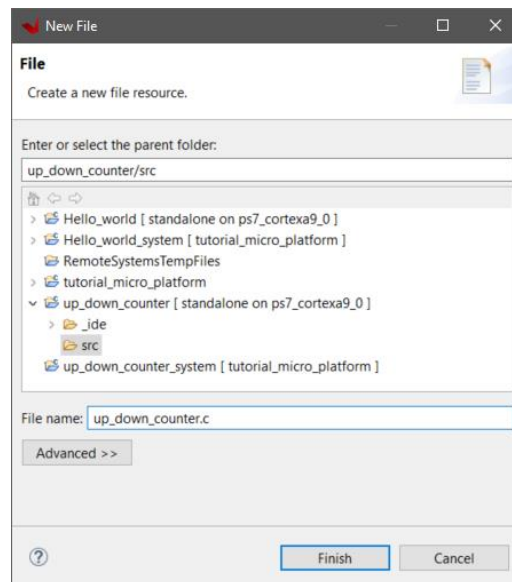

Figure 39
9. In the new window, type **up_down_counter.c** in the **File name:** field, leaving the other fields unchanged, and click **Finish** (Figure 39)